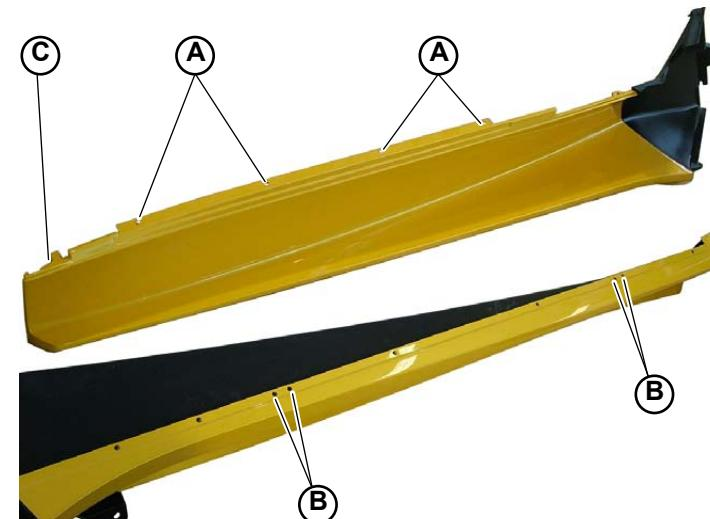

Fig.1
1. Tighten the 4 screws (A-Fig.1) on the upper part of the side member.
2. Tighten the 4 screws (B-Fig.1) on the lower part of the side member onto the 2 relative support brackets.
3. Tighten the screw (C-Fig.1) at the front of the side member.